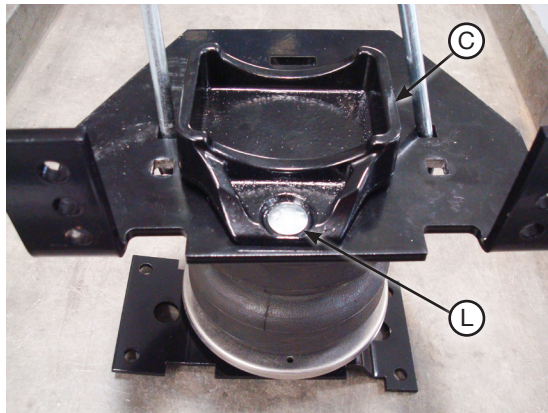
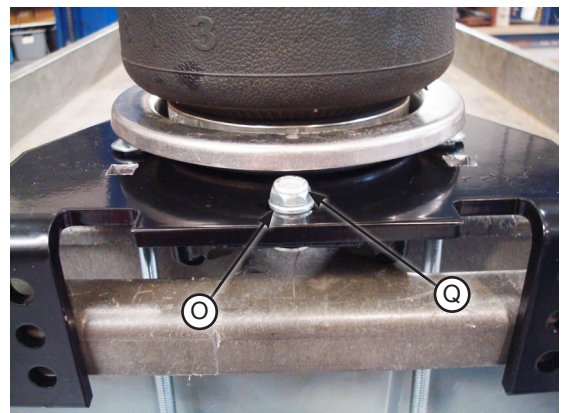

Fig. 13
Fig. 14
6. Install the lower bracket cup (C) onto the lower bracket main plate using the 5/16"-18 x 3/4" carriage bolt (L) (Fig. 13). Cap with M8 flat washer (O) and 5/16"-18 nylon lock nut (Q) (Fig. 14). Tighten finger-tight only. Leave loose enough for bracket to move freely in slot.